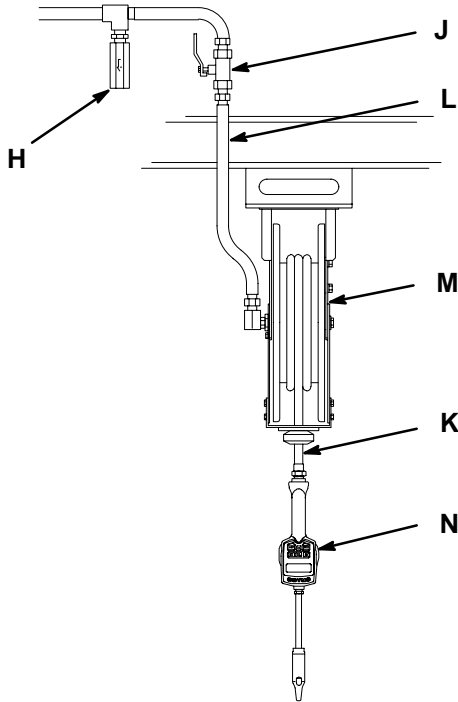
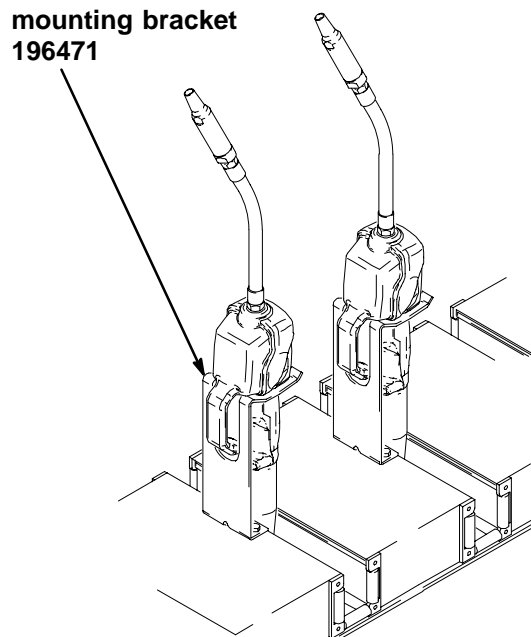

Fig. 1 06174B
Fig. 2 T10334
Fig. 1 shows a typical hose reel installation. These dispense valves can also be installed on a console, as shown in Fig. 2.
The typical installation shown in Fig. 1 is only a guide. The components shown are typical; however, it is not a complete system design. Contact your Graco distributor for assistance in designing a system to suit your particular needs.
Mounting bracket 196471 is available for resting a PM5 dispense valve on a console. See Fig. 2.
2. Close the shut-off valve (item J in Fig. 1).